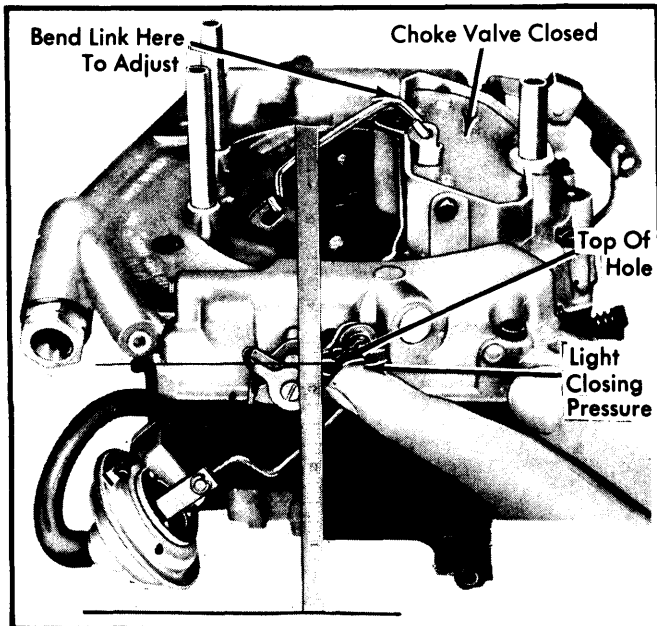

Fig. 6 Adjusting Choke Control Lever
- 1) Place carburetor on a flat surface. Make sure bottom of throttle body is flush with flat surface and that flat surface extends out under choke control lever. See Fig. 6.